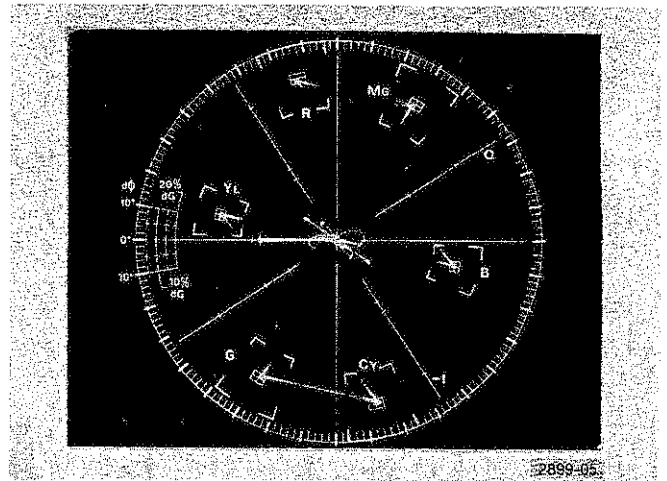

Fig. 2-5. 1420 NTSC color bars, 75% amplitude, 7.5% setup.
c. Rotate PHASE to place the burst vectors on their graticule marks (see Fig. 2-5).
a. Set the 1420 ϕ REF switch to A. Chrominance information in Channel B is now demodulated with reference to the subcarrier phase in Channel A. The display on the Vectorscope should be the same as illustrated in Fig. 2-5. Some phase jitter will be noticed in this mode of operation, because the Sync Stripper circuit does not receive or regenerate composite sync. Therefore, the H Regenerator free-runs at about 15 kHz, but not at exact line sync time. As a result, timing signals generated with reference to the H Regenerator are not exact.